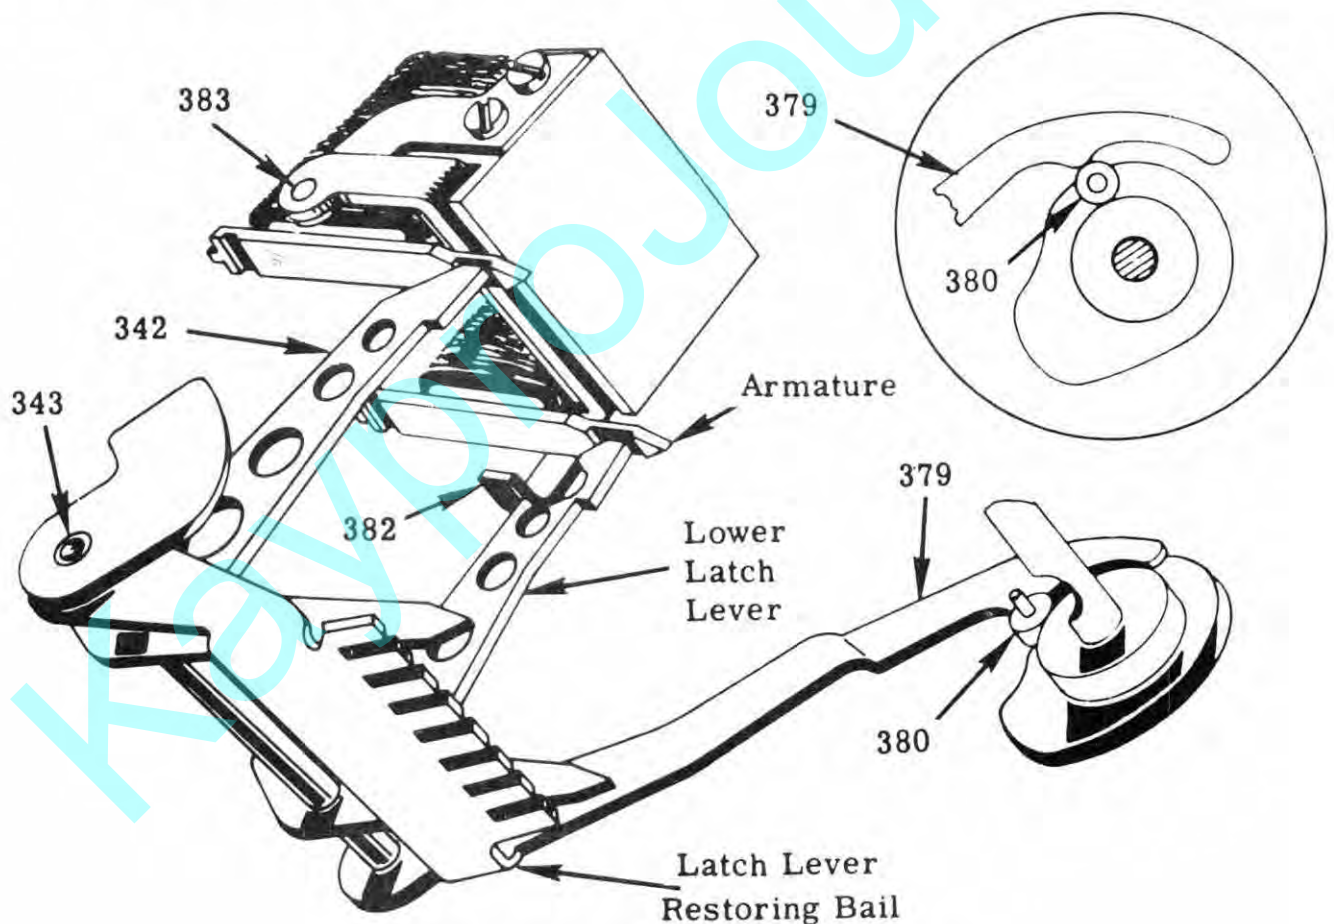

Figure 30- Latch Lever Restoring
During the mid-part of the punch cycle (the latch lock bail (357) has moved back past the tip of the latch levers), the stud (380) engages the outer end of latch lever restoring bail (379), (Figure 30). This action pivots the restoring bail counter-clockwise on its pivot (343). Thus, the restoring bail engages all of the latch levers (342) and moves them counter-clockwise past their armature latching position. In so doing, the lower-most latch lever engages an arm of